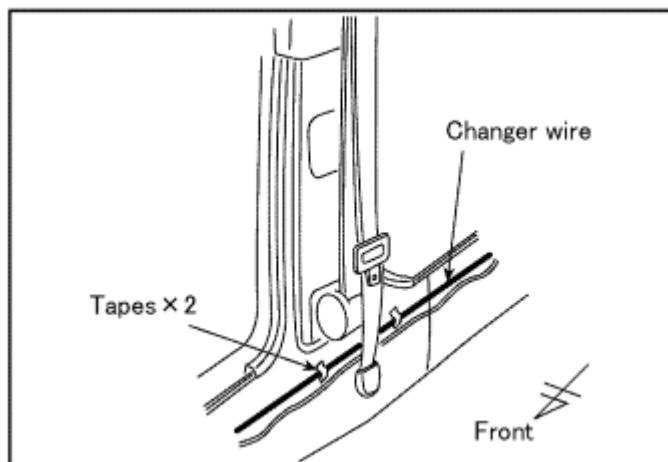

Figure M1
1. Continue to route changer wire through B pillar making sure wire is inside of seat belt receptacle. (Figure M1)
2. Take up slack and place tape on harness in positions shown. (Figure M1)